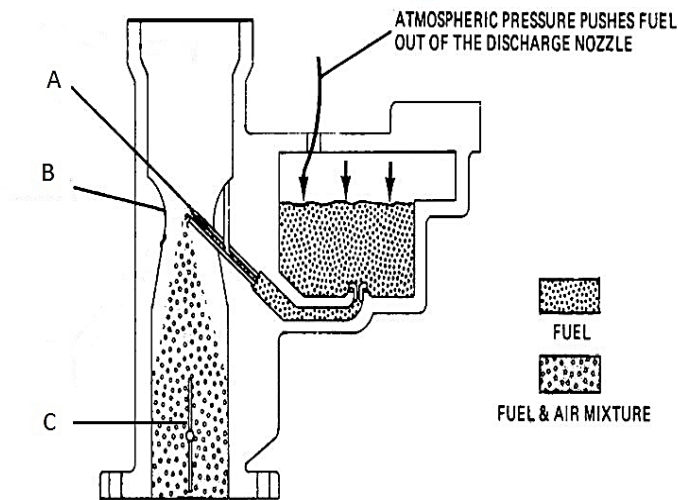

FIGURE 3
- 6.1 ☐ Label the different parts of a carburettor (A–C) in FIGURE 3 below. Write the only the answers next to the letter (A–C) in the ANSWER BOOK.